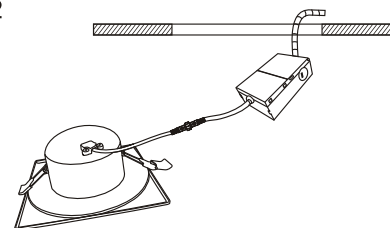

Fig. 3
9. Push the spring-loaded clips on the fixture upwards and insert the fixtures base into the mounting hole. Release the clips and the fixture will be pulled flush to the ceiling (Fig.3).